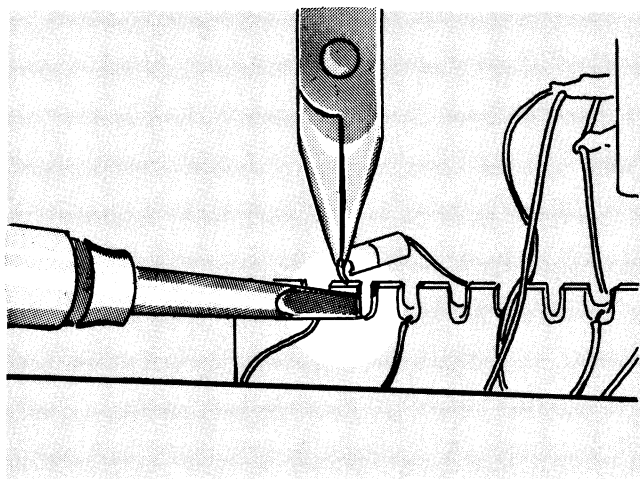

Fig. 5-1. Correct method of applying heat when unsoldering or soldering to a ceramic strip.
3. Apply one corner of the tip to the notch where you wish to solder (see Fig. 5-1).